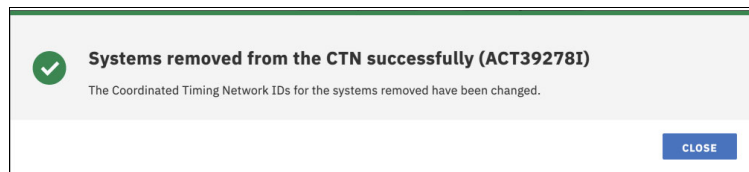

Figure 3-40 Successful removal of server(s) from CTN
6. Wait for successful task completion message shown in Figure 3-40